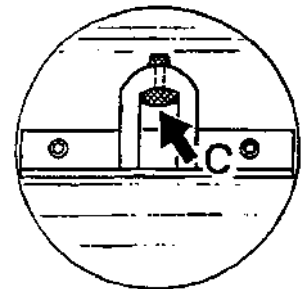

Figure 14
- If missing, install a new rubber stop using soapy water or vaseline. Slide the thin side of the stop from the bottom into the hole using a screwdriver (Figure 14, arrow C). Cut off the excess rubber on top.